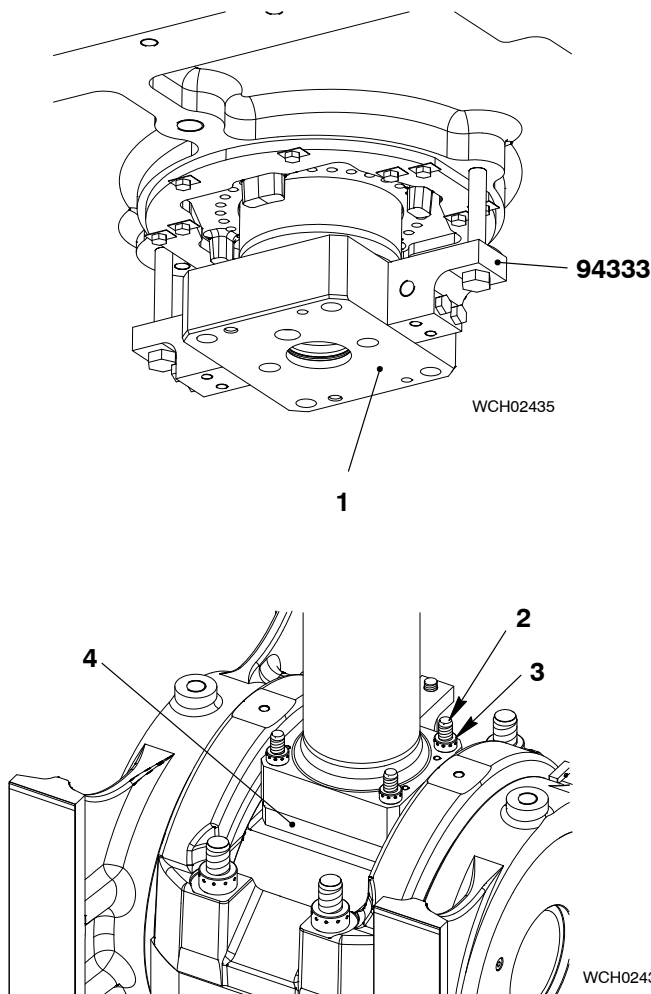

Fig. 11
- 1) Make sure that the piston rod foot (1, Fig. 11) is clean and has no damage.
- 2) Make sure that the compression shim (4) is clean and has no damage.
- 5) Operate the turning gear to move the crankshaft to TDC. Make sure that the crosshead touches the piston rod foot (1).
- 7) Operate the turning gear to lower the piston to BDC. Make sure that the piston rod foot (1) and the crosshead stay together.
- 8) Put the four round nuts (3) on the elastic studs (2).
- 9) Use the pre-tensioning jack (94315) to tighten the four round nuts (3) refer to 9304-4, paragraph 3.